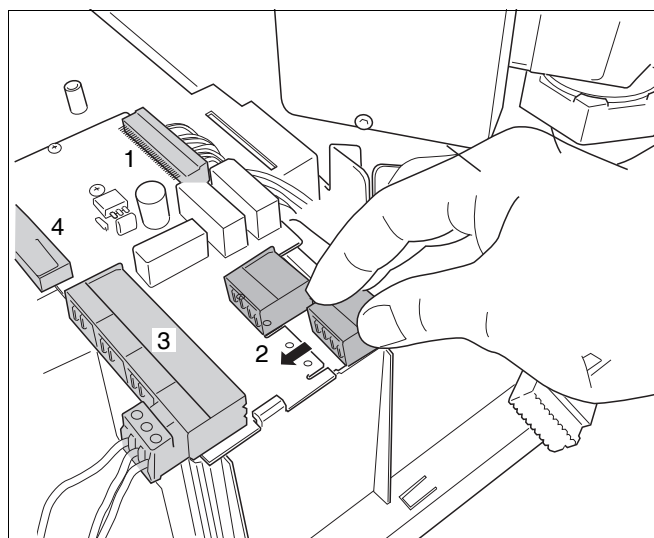

fig. 63 Pulling the external connection board plug
- Pull the 4 plugs from the external connection board (see fig. 63, pos. 1, 2, 3 and 4).